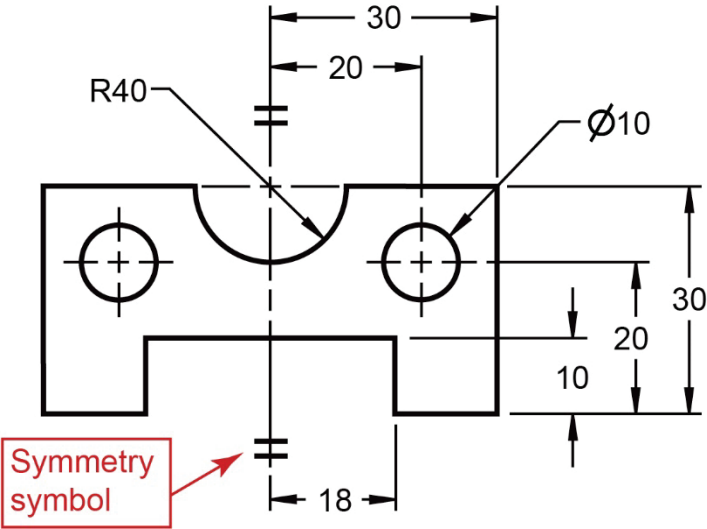

Figure 7.4-10: Center line of symmetry.
m) If a part is symmetric, dimensions on one side of the center line of symmetry may only be given. The center line of symmetry is indicated by using the symbol “ \equiv ” or “ \equiv ”. On older drawings you might see the symbol “ C ” used instead. Figure 7.4-10 illustrates the use of the symmetry symbol.